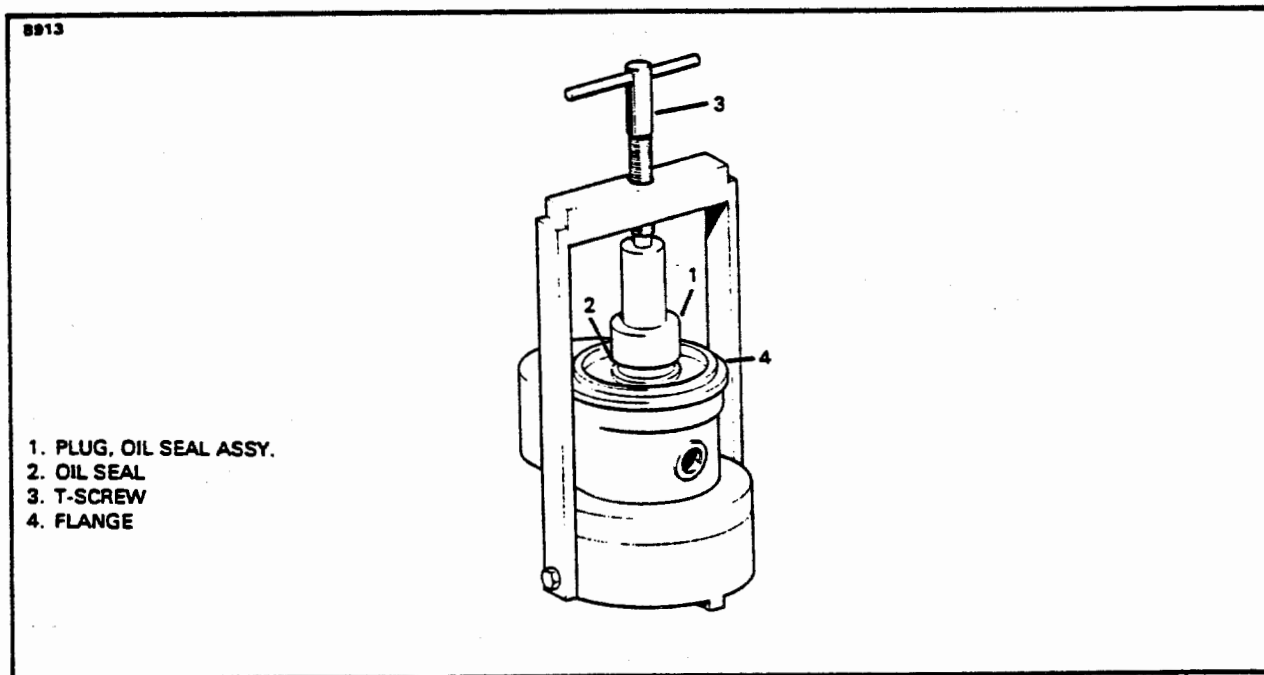

Figure 8-12. Position of Magneto on T-100 and Oil Seal Installation
- j. Reverse the magneto on the T-100 assembly and timing tool so the flange of the magneto is facing up. (Refer to Figure 8-12.)